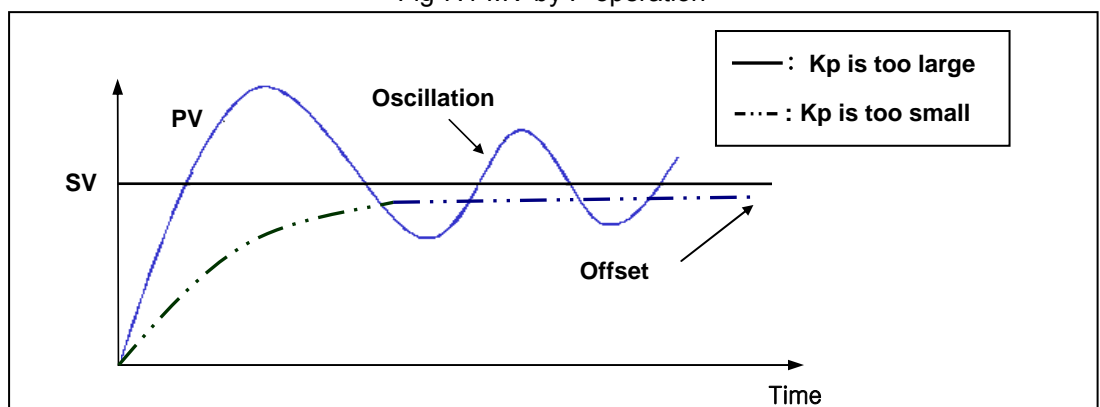

Fig. 7.2 The relation between Proportional constant (Kp) and present value (PV)
- ③ If the Kp is too large, the PV reaches to the SV swiftly, but it may cause a bad effect like oscillations.
- ④ If the Kp is too small, oscillation will not occur. However, the PV reaches the SV slowly and an offset may appear between PV and SV as shown in the Fig. 7.2.
- ⑤ The manipulation value (MV) varies from 0 to 4,000. User can define the maximum value of MV (MV_MAX) and minimum value (MV_MIN) within the range 0 ~ 4,000.
- ⑥ When an offset remains after the system is stabilized, the PV can be reached to the SV by adding a certain value. This value is called as bias value, and user can define the bias value.